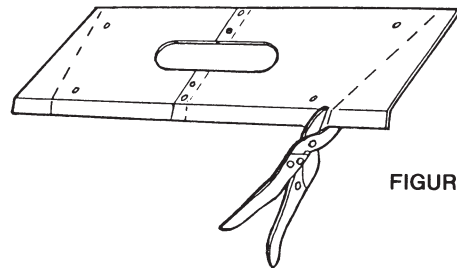

FIGURE 6
6. Cut along lines with a tin snip and notch out any projections if required. (Before cutting make sure that flanges of adapter plate are facing down.) (See figure 6).